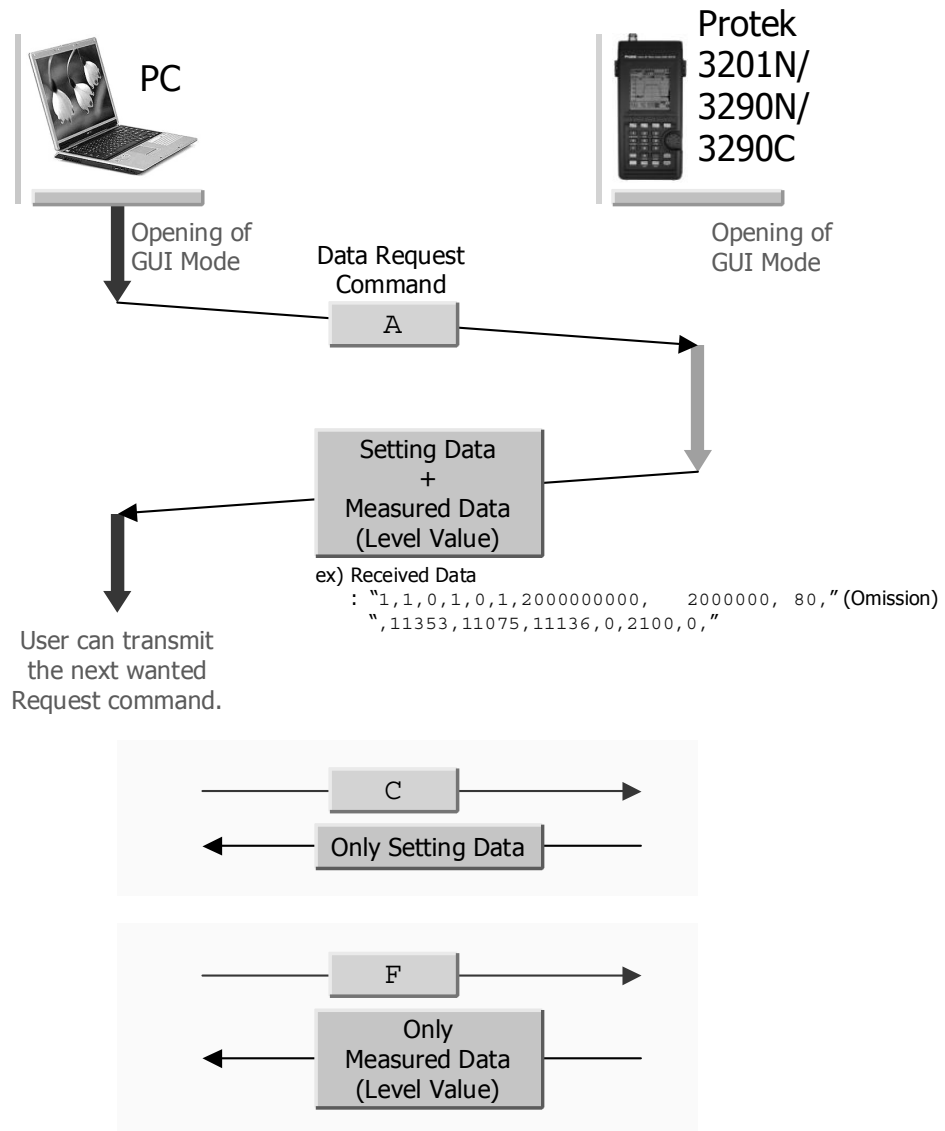

Figure 5.6. “Data Request” Protocol
- 2) As occasion require, user can received the setup data and measuring data severally. Both data are received at same time or one of them can be received. Refer the Figure 5.6.
- b. Menu Selection : It is received total 4 characters and 2 characters in front mean Menu and the rest characters mean sub menu. The information of Menu Selection is as Figure 5.6.